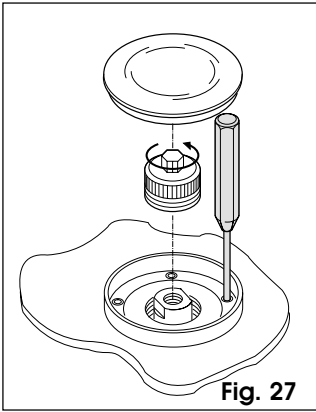

Fig. 27
- 2) Remove the hole guard and fully unscrew the cover of the clutch adjustment screw as shown in Fig.27.